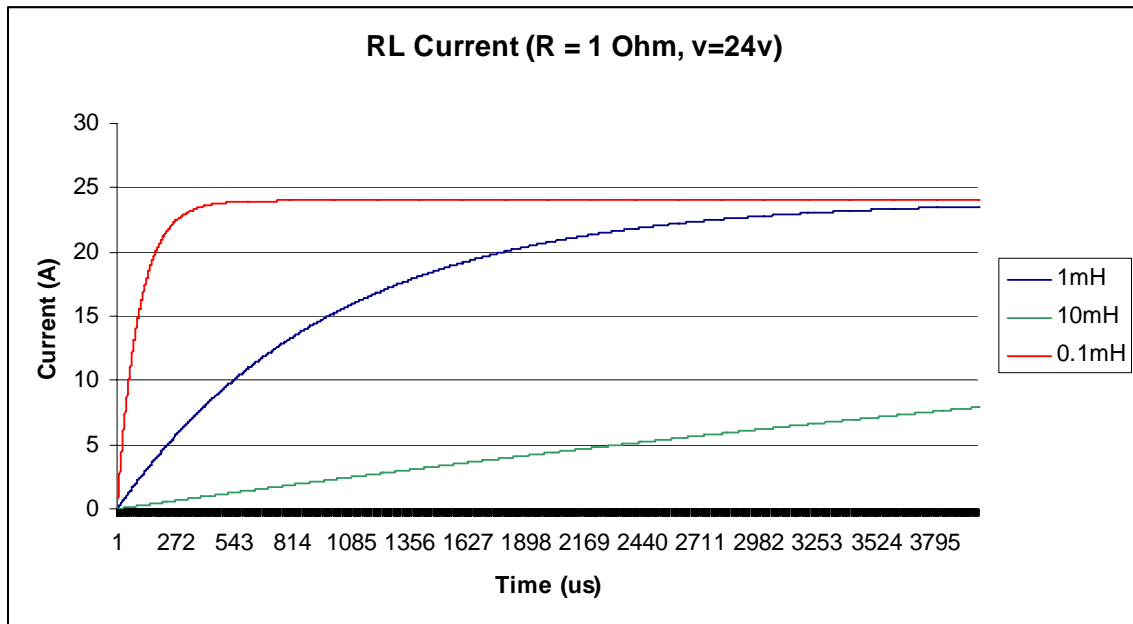
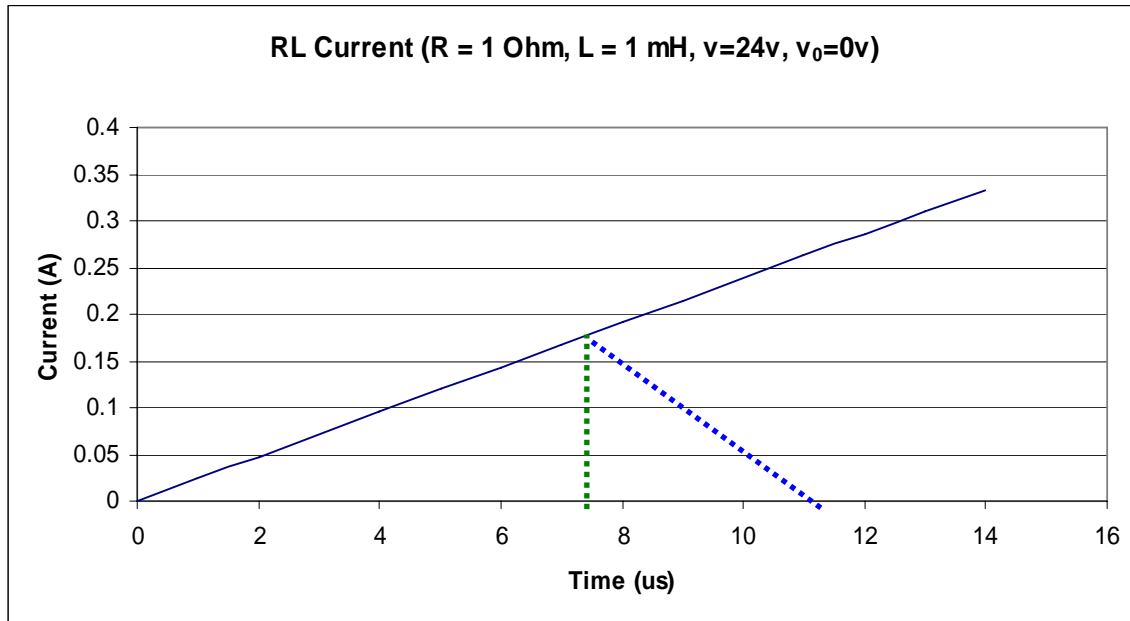

Figure 2 RL current responses for various value of L
Figure 3. RL current ripple when switching every 7.5us
Figure 2 shows the current response for various values of L. For lower values of L, the rise to the max current is faster. This will cause a larger current ripple, and therefore a larger loss of power through motor heating due to equation (c). For larger values of L, the current rise is slower; however this slowness means that the bandwidth of the motor is reduced. With a properly sized inductance, a motor experiences low power losses due to switching, while still maintaining a high-performance current bandwidth. For example, in the 1mH case, peak torque of 10 Amps is achieved in just half a millisecond.
Figure 3 shows a zoomed view of the 1mH curve in Figure 2 from $t=0$ to 14 us. After 7.5us from the time the amplifier is enabled (SH), the current has reached ~ 0.179 A. At this time, the voltage is switched from 24v, to -24v, providing for a total change in voltage of 48v, and leading to the steeper decay of the current as it switches. After 14us, the current would be ~ -0.179 A. The current ripple with these conditions is ± 0.179 A and the power dissipation is just 0.03w.